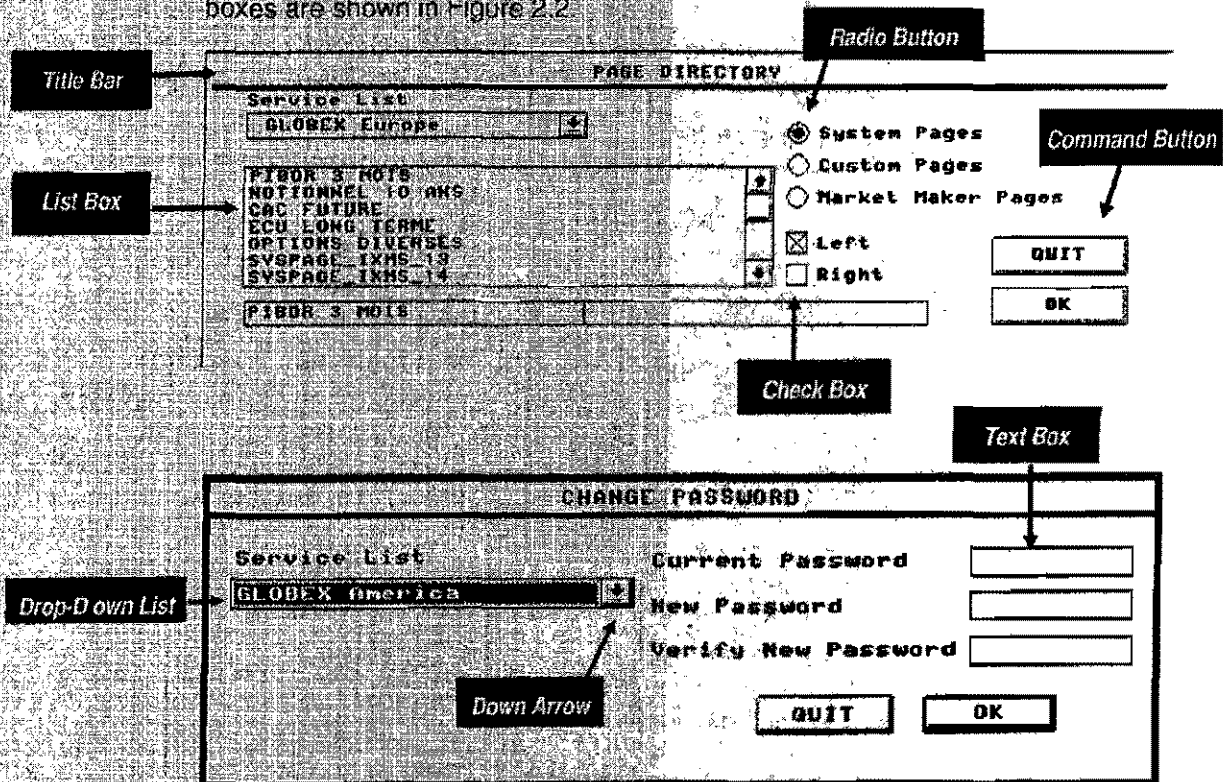

Figure 2.2 Example Dialog Boxes
A dialog box is a window on the screen that displays options and allows you to enter information and choose commands. Dialog boxes display for all the functions on the Trading Panel and for other Keystation functions. Two sample dialog boxes are shown in Figure 2.2.
A dialog box contains various areas (labeled in Figure 2.2). Not all areas appear in every dialog box.
- **Drop-down lists** are indicated with the Down Arrow shown in Figure 2.2. Open the list to display its choices. When you make a selection, the list closes and only your choice displays.